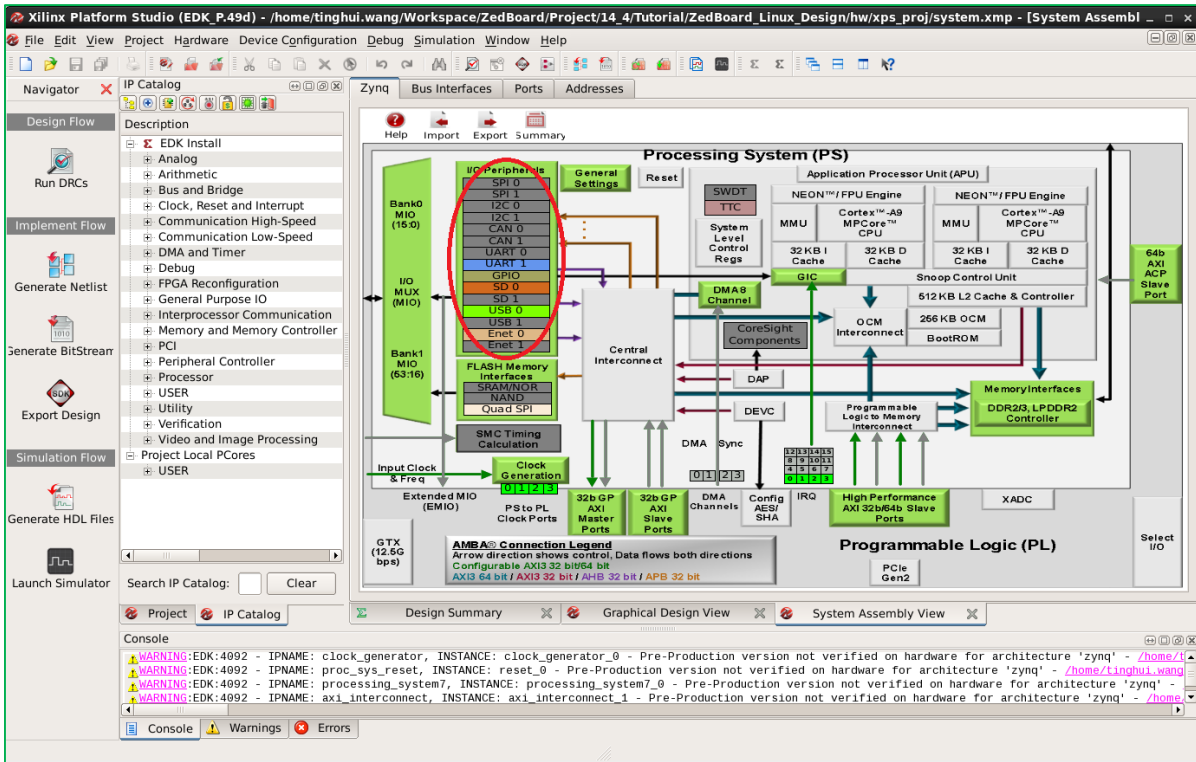
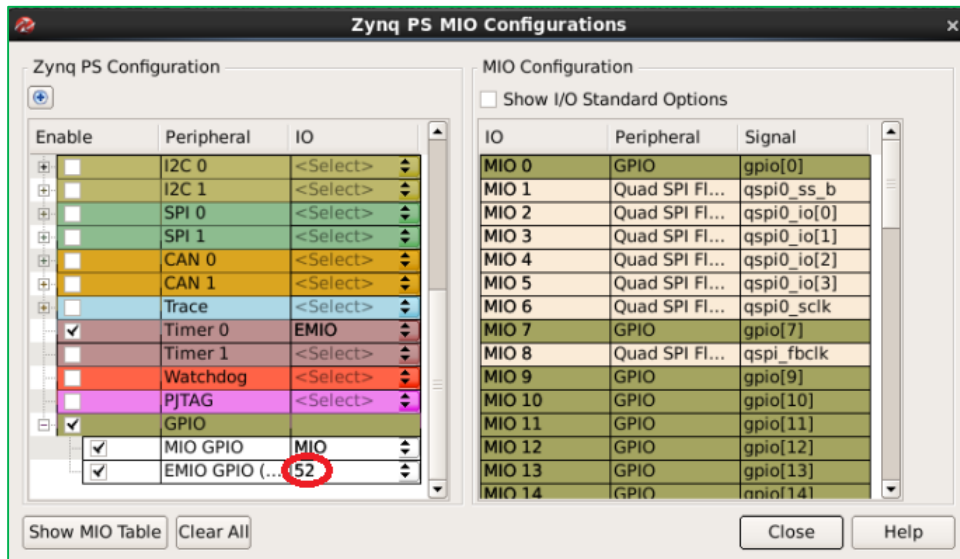
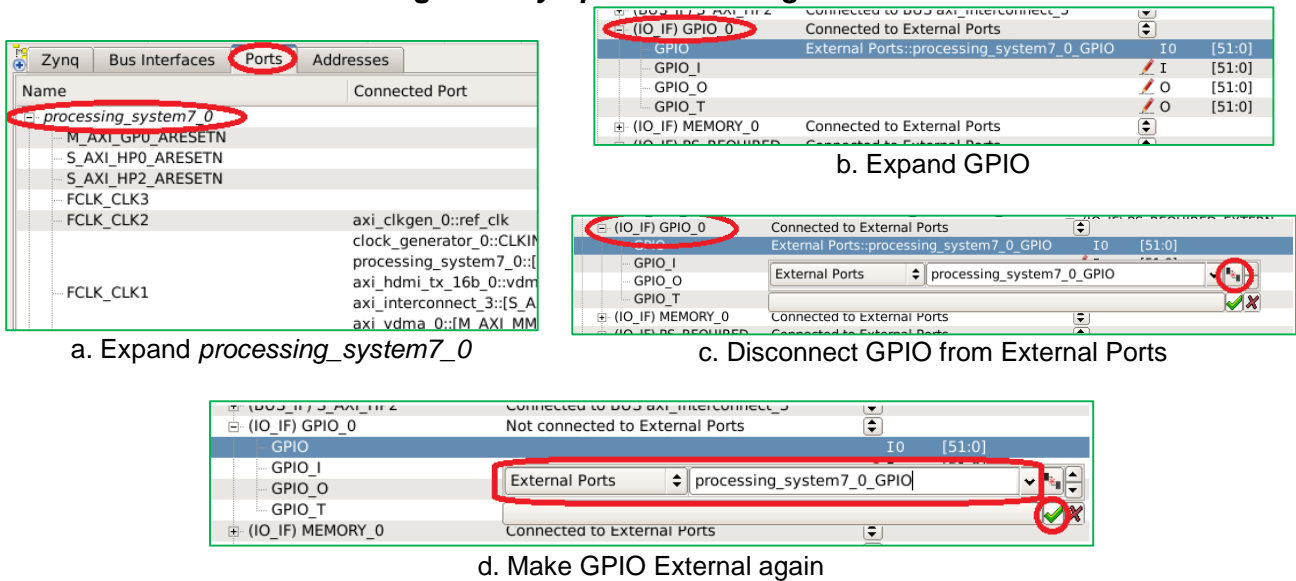

Figure 3. Xilinx Platform Studio GUI
Figure 4. Zynq PS MIO Configurations
Figure 5. Reconnect GPIO to External ports
- I-2** Source Xilinx ISE 14.4 settings and open the design with **Xilinx Platform Studio (XPS)**. See Example 2. You will see the **XPS** window pops up as shown in Figure 3.
I-3 We are going to detach LEDs from the GPIO core in PS system first. So, we need to click on the **I/O Peripherals** (red circle in Figure 3), and a **Zynq PS MIO Configuration** window will pop up as shown in Figure 4. We are going to change the width of GPIO on **EMIO** interface from **60** to **52** to remove 8 LED pins, as shown in the red circle in Figure 4. However, we also need to refresh the change on **External Port** in **Ports** tab. So, click **Ports** tab, expand `processing_system7_0`, expand **(IO\_IF) GPIO\_0**, disconnect it from **External Ports**, and connect it to **External Ports** again (as shown in Figure 5). We will leave the modification of external pin location configuration (`ucf` file) in later steps.